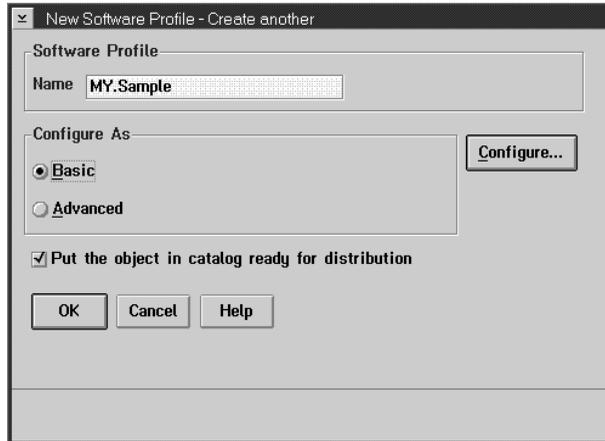

Figure 63. New software profile window
- 17 Close the notebook. The New Software Profile window is displayed again, as shown in Figure 63 on page 159.